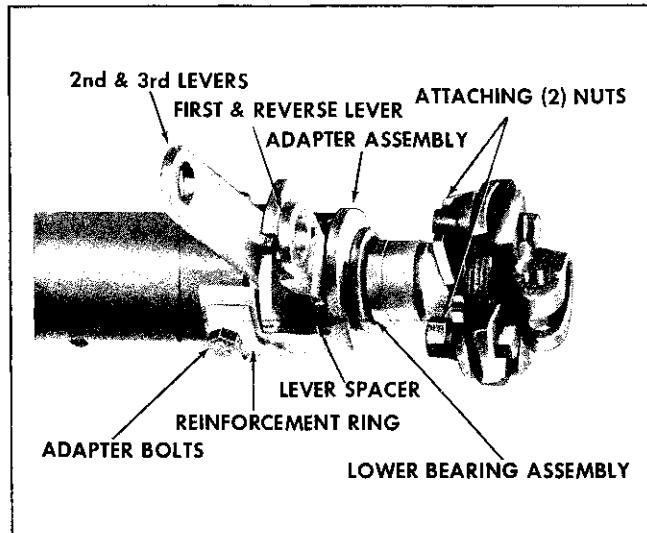

Fig. 9-18 Lower Shift Levers and Adapter (Pontiac Shown)
6. Remove the three bolts and the alignment plate just above the lower gearshift levers (see Figure 9-18).